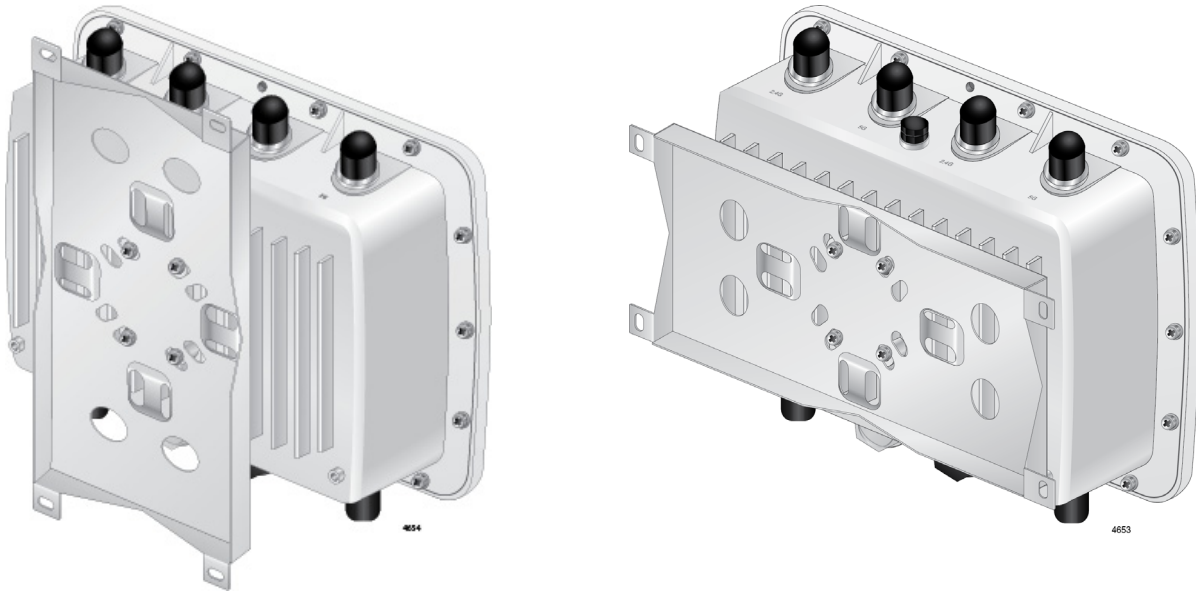

Figure 22. Two Orientations of the Mounting Base
- ❑ The mounting base can be installed in a vertical or horizontal position. See Figure 22.
The mounting base can be in a vertical or horizontal position. see Figure 22 on page 52.